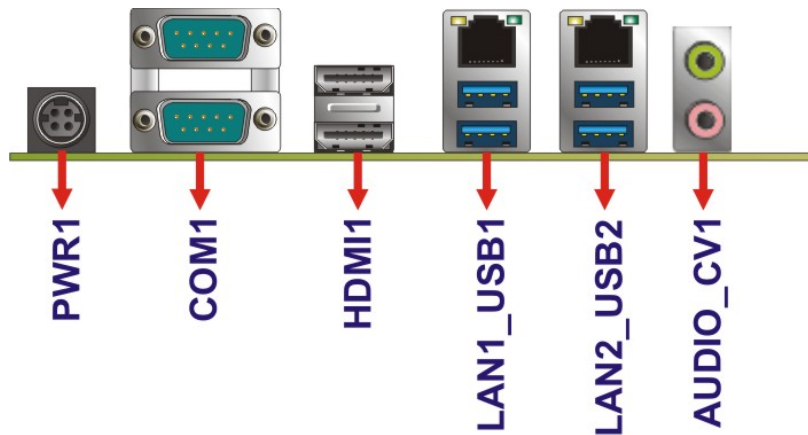

Figure 3-30: External Peripheral Interface Connector
CN Location: See Figure 3-30
- CN Location: See Figure 3-30
CN Location:	See Figure 3-30
See Figure 3-30